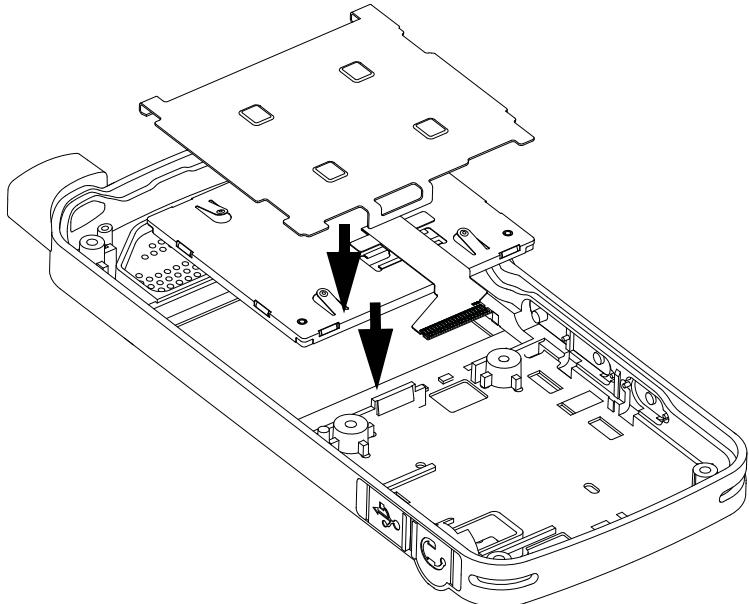

Figure 5-19. LCD display reassembly
2. Insert the display retainer slightly higher than the display module and slide it to fit below the PCB retainer catch as shown in Figure 5-19.